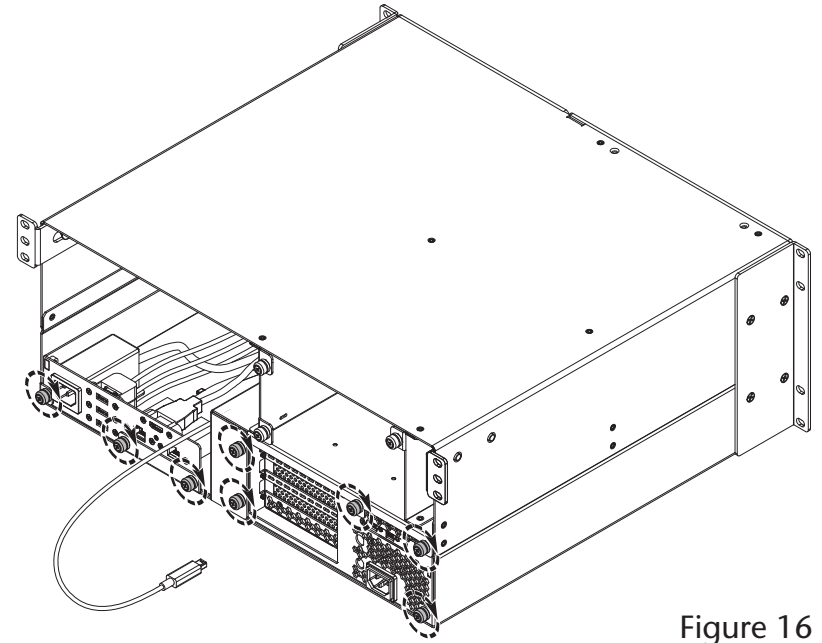

Figure 16
5. Secure the computer mounting and PCIe card expansion modules to the back of the rackmount enclosure by turning the eight thumbscrews clockwise (**Figure 16**).